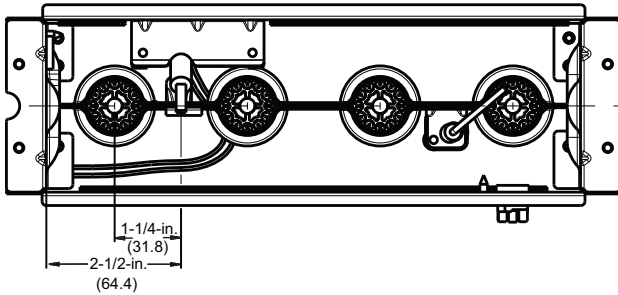

Fig. 27 - Igniter Position - Top View
4. Verify igniter to burner alignment. See Fig. 27 and 28.